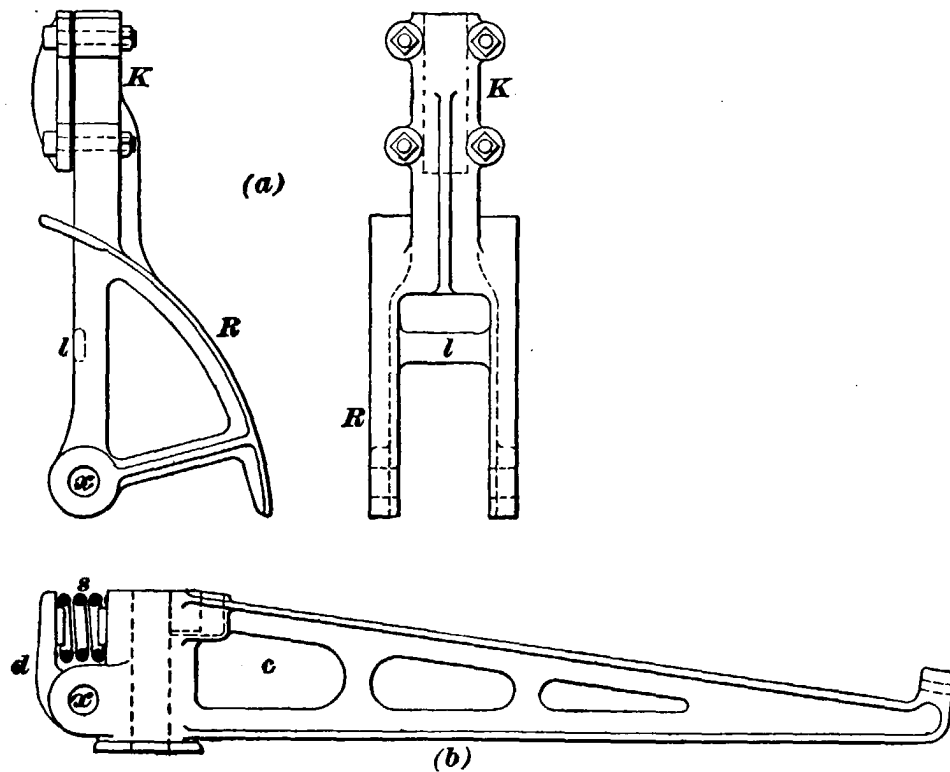
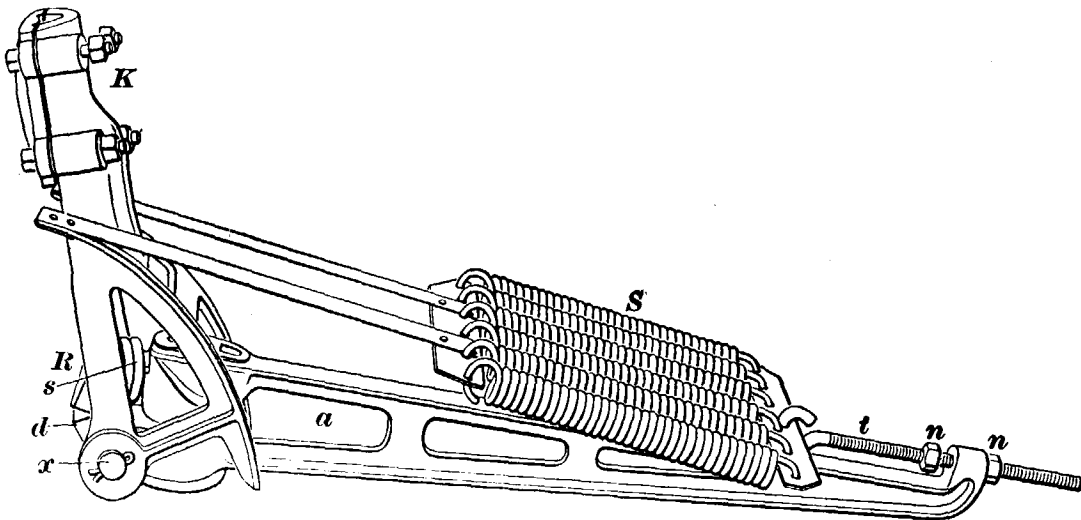

FIG. 11.
FIG. 12.
8. The T. H. Trolley Stand.—Figs. 11 and 12 show a form of trolley stand that was formerly much-used. Fig. 12 is a perspective view of the upper member of the stand. On bending the pole to the left, rocker R winds up the straps attached to the spring frames and pulls out the battery of springs S . To increase the tension, nut n must be tightened. It can be seen that with this style of base the trolley pole cannot be rocked over, but must be swung
around with the upper member. In Fig. 11 (b), a spring s may be seen on the main casting c . There is a projection on one side of the main casting, and this projection goes into one end of the spring; an iron dog d that moves around the same center as the rocker casting R has a slight projection that goes into the other end of spring s . In case the trolley rope breaks or for any other reason the pole flies up, rib l of casting R compresses spring s and relieves the trolley